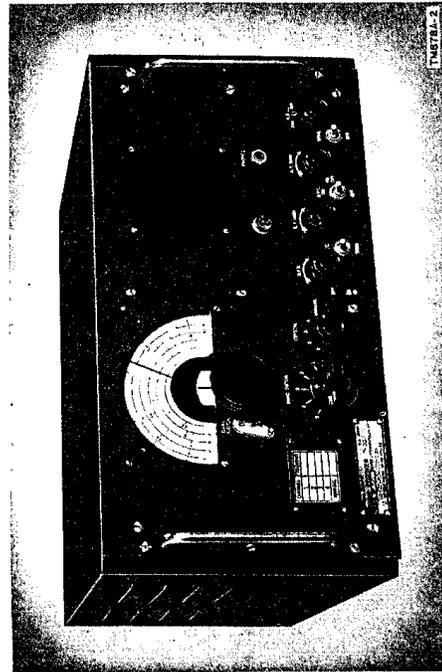

Figure 2. Radio Receiver R-96A/SR, front view.
a. Radio Receiver R-96A/SR is an 11-tube superheterodyne receiver designed to receive a-m and c-w signals in the frequency ranges of 135 to 510 kc and 1 to 12 mc to cover the operating frequencies of the standard marine bands, as well as many land-based and airborne transmitters. This is necessary to facilitate complete shipboard reception for all types of military operations. Four crystal-controlled channels also are provided in the 1,700 to 8,700 kc frequency range. A speaker is contained within the set and a phone jack is provided on the front panel for headset operation. An automatic noise limiter circuit assists in reception during pulse type noise interference. All operating controls are located on the front panel (fig. 2). The receiver is provided with a cabinet suitable for desk or shelf mounting. The cabinet is designed to support the weight of Radio Transmitter T-83/SR when it is used in conjunction with the receiver. If required for installation, the receiver may be removed from the cabinet and
b. The receiver can be removed from the dust cover by removing six screw-head bolts. The bolts are located at the ends of the front panel in line with the two handles (fig. 2). After the bolts are unscrewed, grasp the handles and pull the chassis outward from the dust cover.
17. Front Panel Controls (figs. 2 and 9)